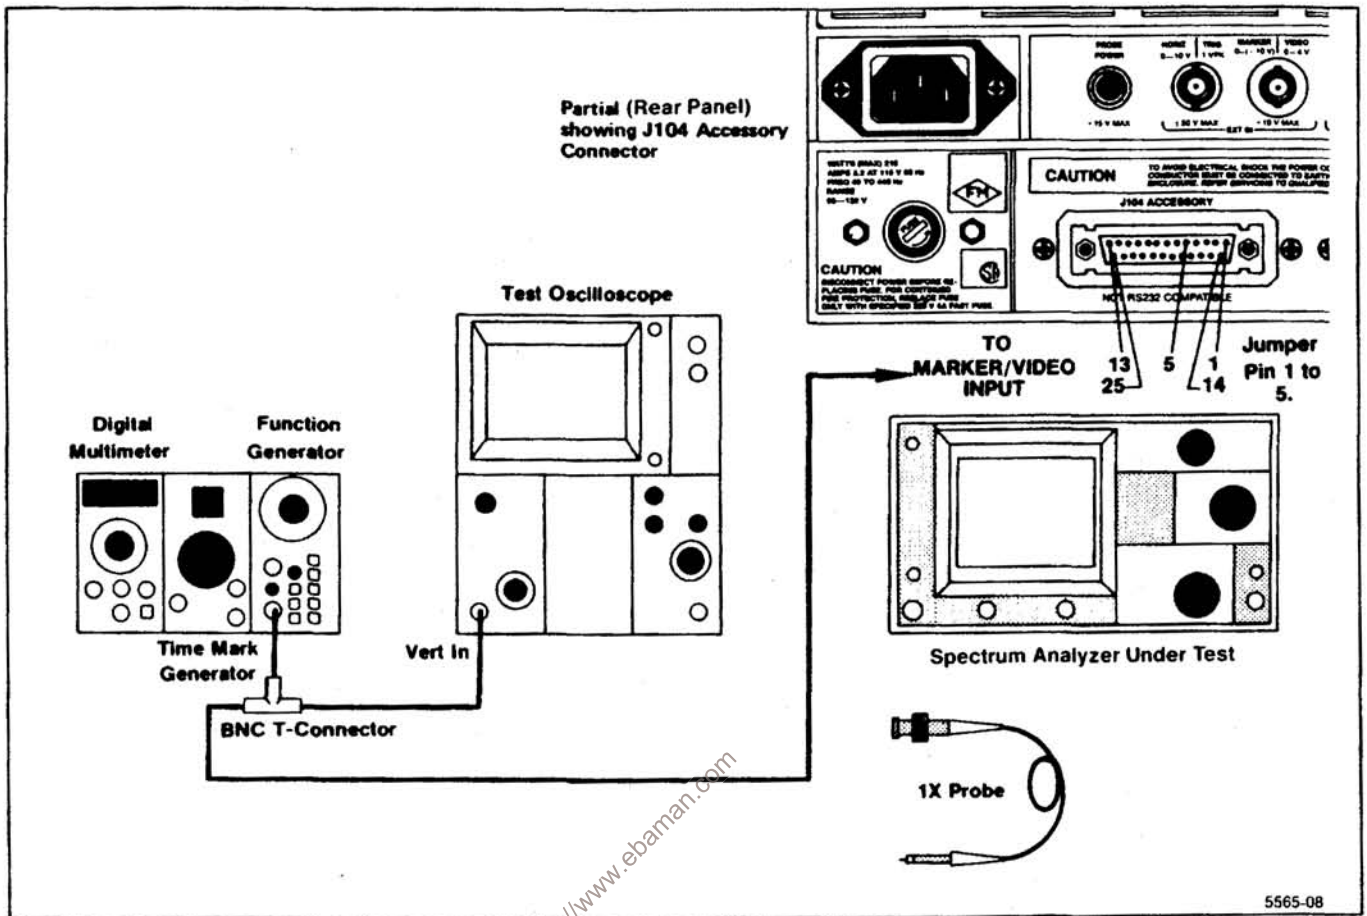

Figure 5-4. Test equipment setup for adjusting the Deflection Amplifier.
When adjusting Option 42 instruments, the output of the Function Generator must be connected to the PEN LIFT connector at the rear of the instrument, rather than as shown in Figure 5-4. Be sure to ground pin 1 of the ACCESSORIES connector when using the PEN LIFT connector in this manner.
a. Connect the test equipment as shown in Figure 5-4. Set the TIME/DIV to 1 ms.